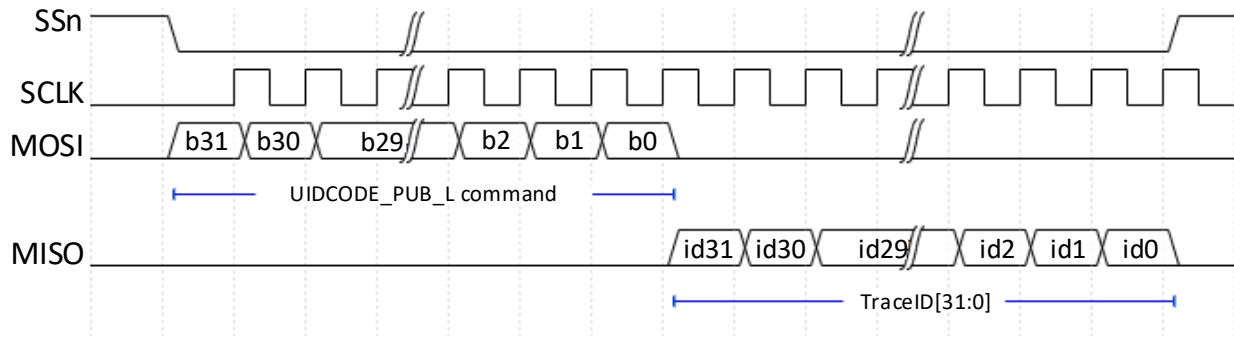
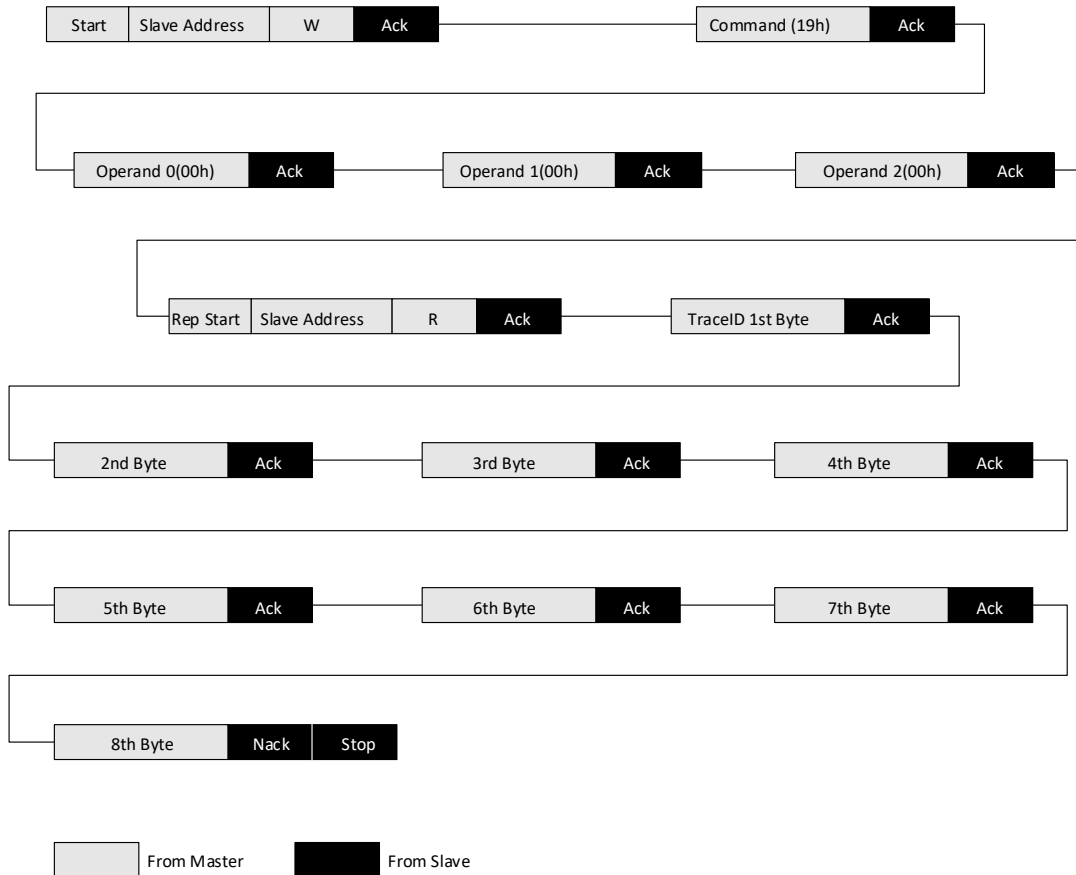

Figure 5.7. TraceID Read through SPI (Avant and Nexus 2 Devices only)
Figure 5.9. TraceID Read through I2C
8. Pull up configuration SN select pin. The complete sequence is shown in Figure 5.7 and Figure 5.9.
Figure 5.9 shows the TraceID read through I2C.